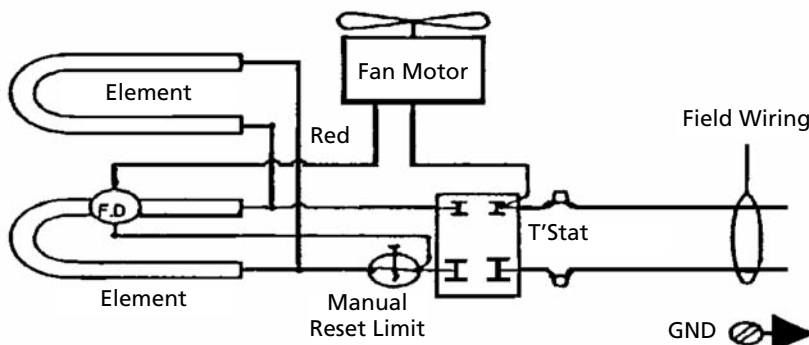

Figure 7 – Wiring Diagram (Single Phase)
- Connect the power lead wires (field wiring) to the lead wires from the heater assembly. See wiring diagram Figure 7, page 4.
See Figure 7.